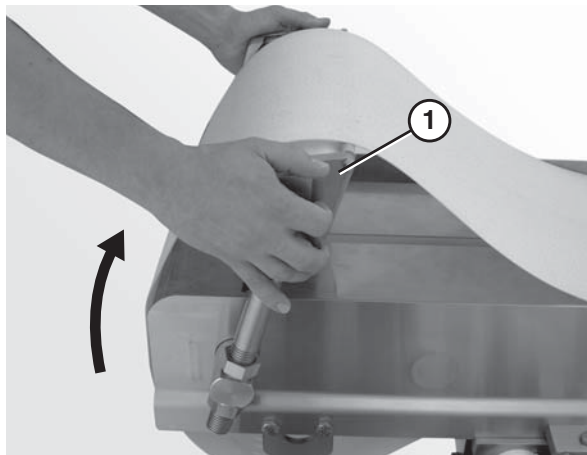

Figure 42
1. Place the idler tail (Figure 42, item 1) in the UP position.